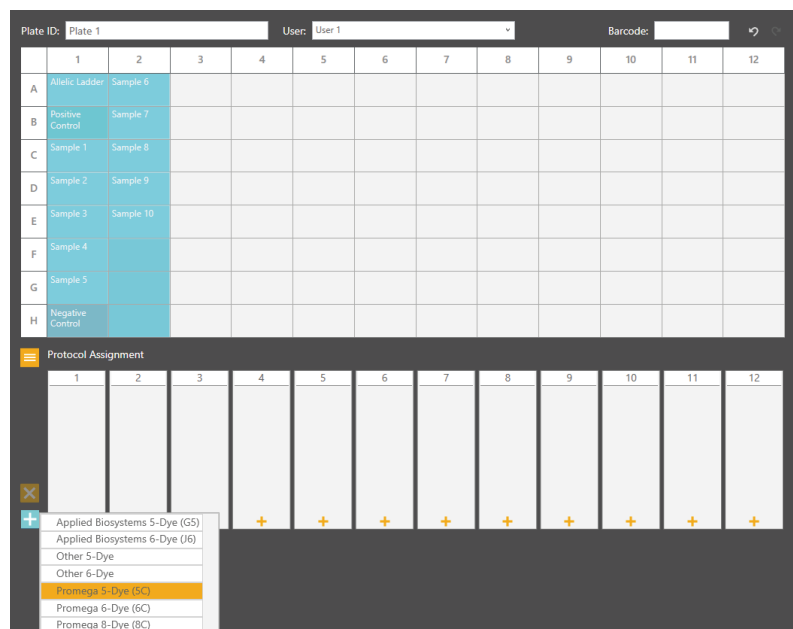

Figure 9. Assigning run protocol to multiple injections.
- To add a run protocol to multiple injections, highlight the desired injections in the plate map (click-drag, Ctrl + click or click the upper left cell). Then select the **+** button on the left side of the injection information section and choose **Promega 5-Dye (5C)** (Figure 9) from the pop-up menu.